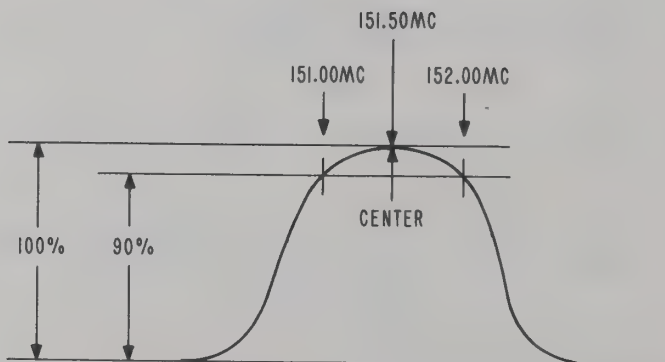

Figure 3-4. Typical R-f Alignment Response Curves
- (8) Adjust both FREQUENCY SELECTOR and sweep generator (12) for 151.50 mc, using markers at 151.00 mc and 152.00 mc.
- (9) Tune inductors L201, L203, L205, and L207 for maximum symmetrical output as shown in B of figure 3-4.
- (10) Readjust components tuned in steps (7) and (9) as necessary.
- (11) Replace third mixer transistor Q301 (removed in first i-f stage alignment).
- (12) Remove battery leads.
- (13) Replace transistor Q4 (removed in second i-f stage alignment).